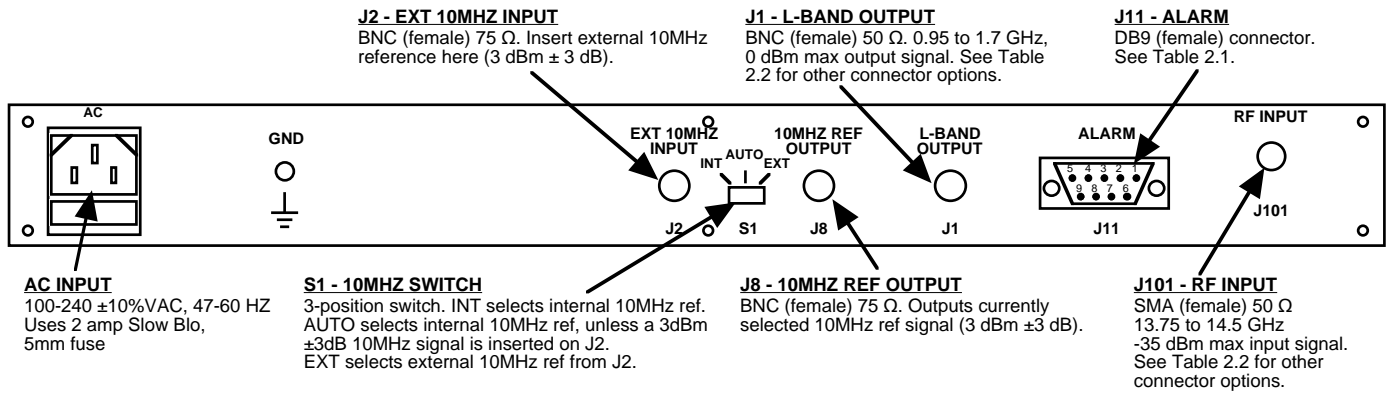

FIGURE 2.1 2116-137 Rear Panel I/O's
Figure 2.1 shows the input and output connectors on the rear panel.
1. Connect a -55 dBm to -35 dBm signal to RF INPUT, J101 (Figure 2.1).
5. Select either INT (for internal 10MHz ref), AUTO (for internal 10MHz ref UNLESS an external 10MHz, 3 dBm signal is connected to J2), or EXT (for external 10MHz, 3 dBm ref that is inserted at J2) on rear panel switch S1 (Figure 2.1).
7. Check that a 10MHz, 3 dBm \pm 3 dB signal is present at the 10MHZ REF OUTPUT (J8) (Figure 2.1).